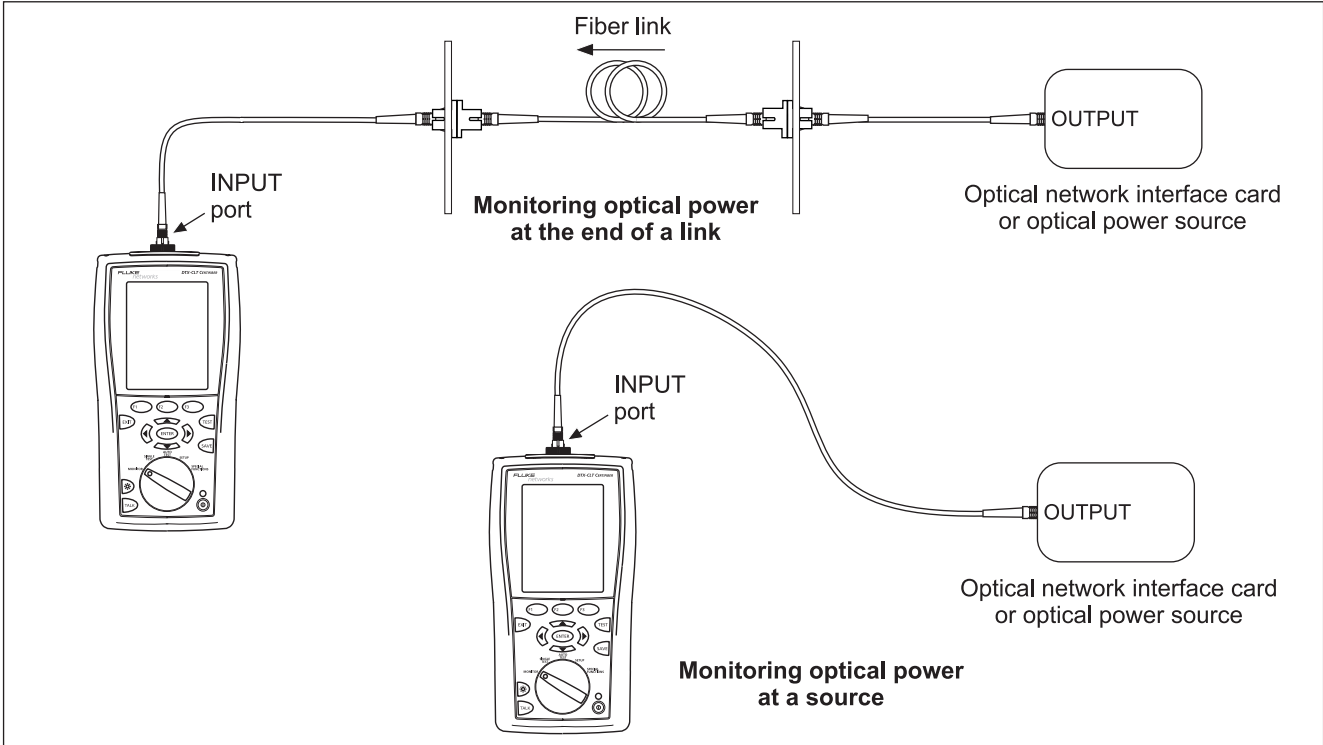

Figure 27. Connections for Monitoring Optical Power
- 2 Use the test reference cord to connect the source to the tester's input port, as shown in Figure 27. Turn on the source.